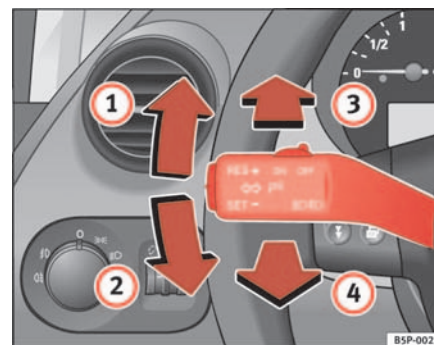

Fig. 79 Turn signal and main beam headlight lever
- Move the lever all the way up $\Rightarrow$ fig. 79 ① to indicate **right**, and all the way down ② to indicate **left**.
- Press the lever forward $\Rightarrow$ page 113, fig. 79  to switch on the main beams.